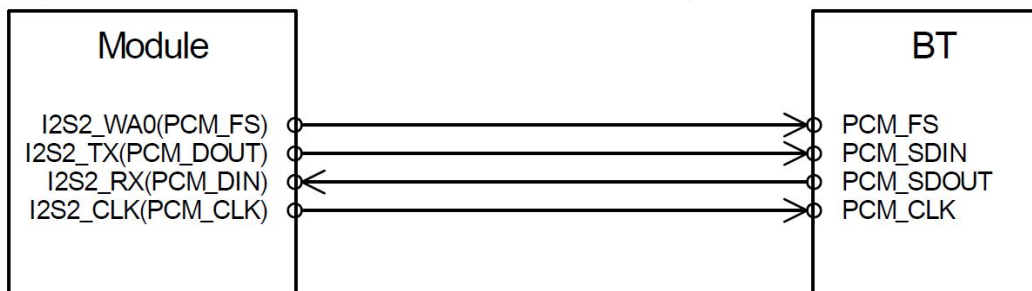

Figure 3-21 Signal Connection in PCM Mode
In the case of the Bluetooth (BT) call, the PCM mode is used to transmit digital voice data if the BT chip does not support I2S. At this point, the module works as the PCM master, and BT works as the PCM slave mode. The signal connection under the PCM mode is shown in Figure 3-21: